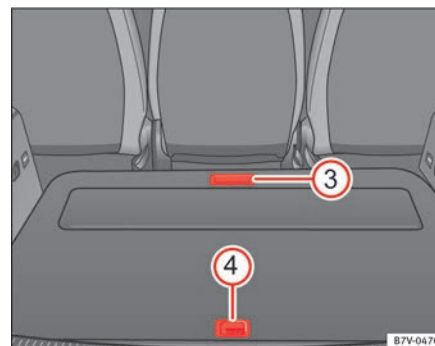

Fig. 114 Other compartments in the luggage compartment floor
Open the front compartment ⇒ fig. 114 ③:	▷ Pull the front of the luggage compartment floor back using the handle.
Open the rear compartment ⇒ fig. 114 ④:	▷ Lift the rear of the luggage compartment floor using the handle.